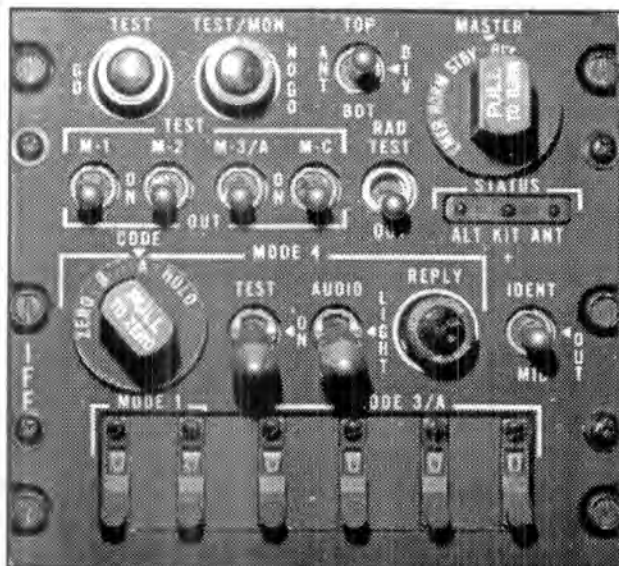

Figure 1-27 C-10009 IFF controller
1.204 The C-10009 Controller (Figure 1-27) provides all necessary controls and indications for applying power to the IFF system, selecting the modes of operation, and monitoring the reply in some of the modes. The Controller is installed in the right hand console of the cockpit. Panel illumination is provided by fifteen lamps mounted on a printed circuit board behind the front panel.